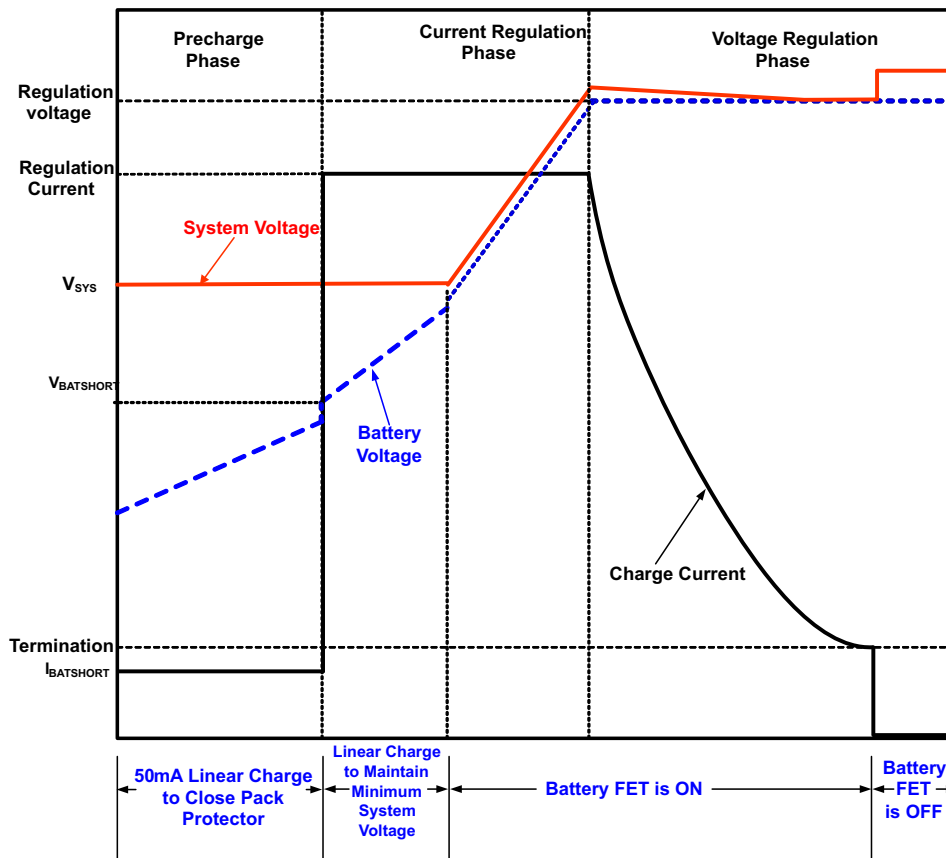

Figure 2. Typical Charging Profile of bq24278
Circuit of Figure 2, $V_{U_{VLO}} < V_{IN} < V_{OVP}$ AND $V_{IN} > V_{BAT} + V_{SLP}$, $T_J = 0^{\circ}\text{C} - 125^{\circ}\text{C}$ and $T_J = 25^{\circ}\text{C}$ for typical values (unless otherwise noted)
Charging is done through the internal battery MOSFET. When the battery voltage is above 3.5V, the system output (SYS) is connected to the battery to maximize the charging efficiency. There are 5 loops that influence the charge current; constant current loop (CC), constant voltage loop (CV), thermal regulation loop, minimum system voltage loop (MINSYS) and input voltage dynamic power management loop (V_{IN-DPM}). During the charging process, all five loops are enabled and the dominant one takes control. The bq24278 supports a precision Li-Ion or Li-Polymer charging system for single-cell applications. The minimum system output feature regulates the system voltage to a minimum of $V_{SYS(REG)}$, so that startup is enabled even for a missing or deeply discharged battery. Figure 2 shows a typical charge profile including the minimum system output voltage feature.
The charge current is regulated to I_{CHARGE} until the battery is charged to the regulation voltage. Once the battery voltage is close to the regulation voltage, V_{BATREG} , the charge current is tapered down as shown in Figure 2 while the SYS output remains connected to the battery. The voltage regulation feedback occurs by monitoring the battery-pack voltage between the BAT and PGND pins.